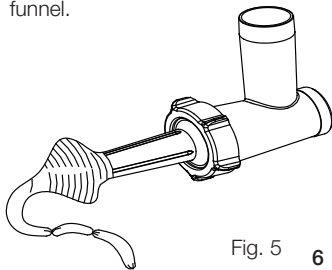

Fig. 5
2. Set clean small intestine to sausage pole as the figure 5, then place blended meat powder into funnel.